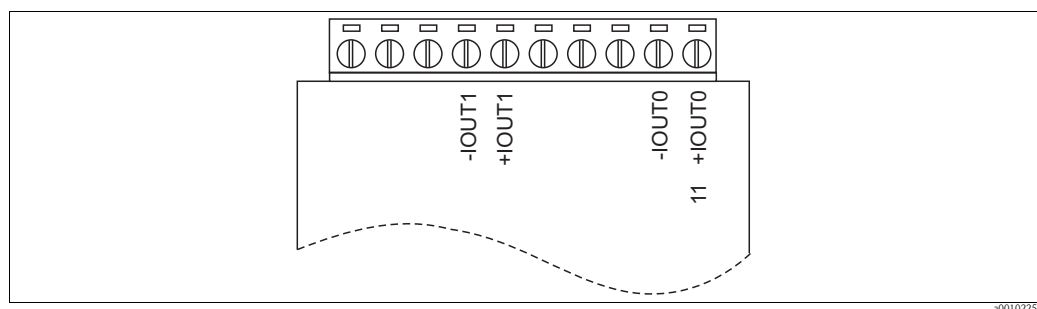

Fig. 13: Connecting the signal outputs
3. Connect the signal cables to the analog modules (s. Abb. 13).